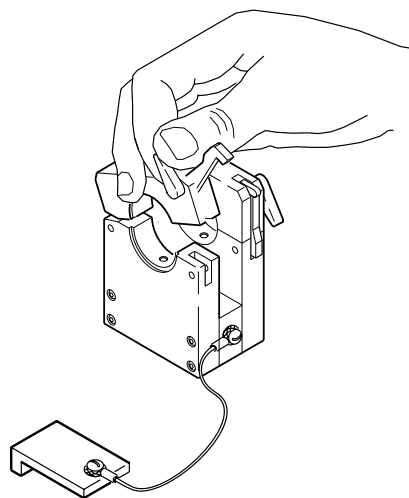

Figure 12 Opening the Fixture Block
3. Adjust the arc gap gage to match the setting from the tables on page 8. See Figure 12 (B).
1. Release both levers and open the tube fixture block. See Figure 12.